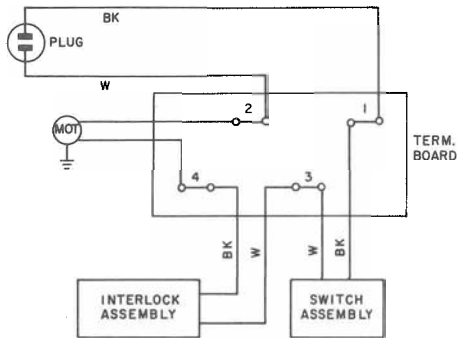

Fig. 30—KS-16797, List 9 (MD) Blower Assembly, Connections
(b) Connect ohmmeter to terminal 1 and 2 of terminal board (Fig. 30).
(a) Connect ohmmeter to terminals 1 and 3 of terminal board (Fig. 30).
Inspect the blower switch and interlock switch assemblies. If their condition is good, connect their leads to terminal board per Fig. 30; if their condition is questionable, replace as directed in 4.30 or 4.31.
- (1) Tie a wire or string to the switch assembly leads at the end disconnected from the terminal board.
- (2) Remove and retain two No. 8-32 by 5/8 RH self-tapping screws which secure switch assembly to corner post.
- (3) Pull switch assembly until leads are removed from wire channel and wire or string is exposed.
- (4) Untie wire or string from leads of old switch and tie to leads of new switch.
- (5) Pull wire or string and feed switch leads through wire channel to terminal board. Untie wire or string.
- (6) Mount switch in position on post and secure it with the two screws retained in (2).
- (7) Connect leads to terminal board per Fig. 30.
- (1) Tie a wire or string to the switch assembly leads at the end disconnected from terminal board.
- (2) Remove and retain two No. 6-32 by 1-1/16 BHM screws, two No. 6 lockwashers, and two No. 6-32 hex nuts which secure switch assembly to track assembly.
- (3) Repeat 4.30 (4) and (5).
- (4) Mount switch in position on the upper surface of the track assembly with its operating bracket extending through the track.
- (5) Secure switch to track assembly using hardware retained in (2); lockwashers and hex nuts shall be on top side of track.
- (6) Connect leads to terminal board per Fig. 30.